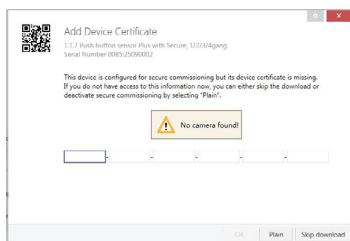

Fig.4.3.1 Add Device Certificate window
- On the first download of the device, a window pops up in the ETS to prompt the user to enter the key, as shown in Figure 4.3.1 below. The certificate can also be read from the device using a QR scanner (recommended).